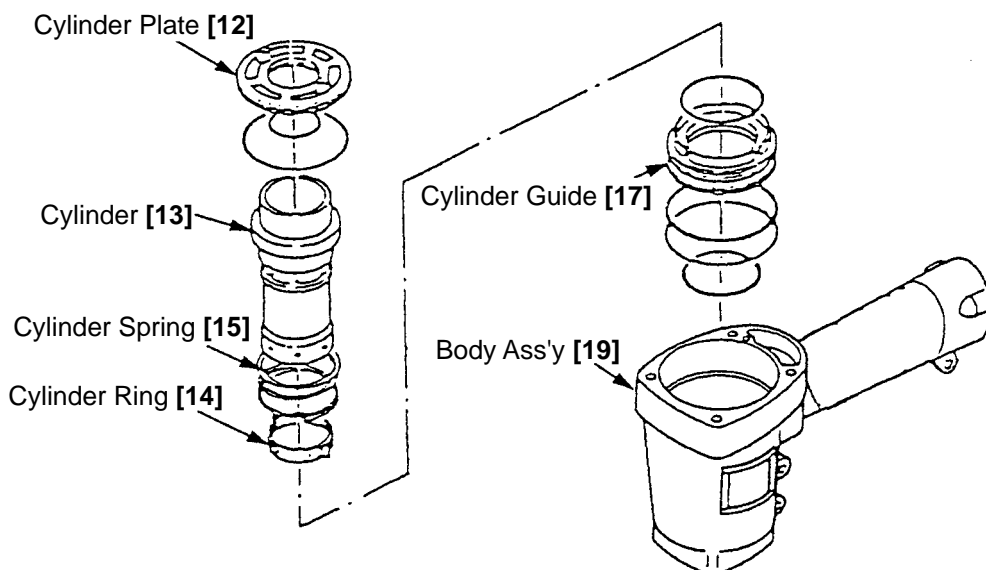

Fig. 13
- Reassembly of the Piston [9] can be most easily accomplished by inserting the Piston [9] into the Cylinder [13] as illustrated in Fig. 13, and inserting the Piston [9] into the grooves on the Guide Plate [25] while pulling the piston out in a downward direction.
- When assembling Gasket (B) [4], ensure that its air vents are properly aligned with the air vents on the Body Ass'y [19].